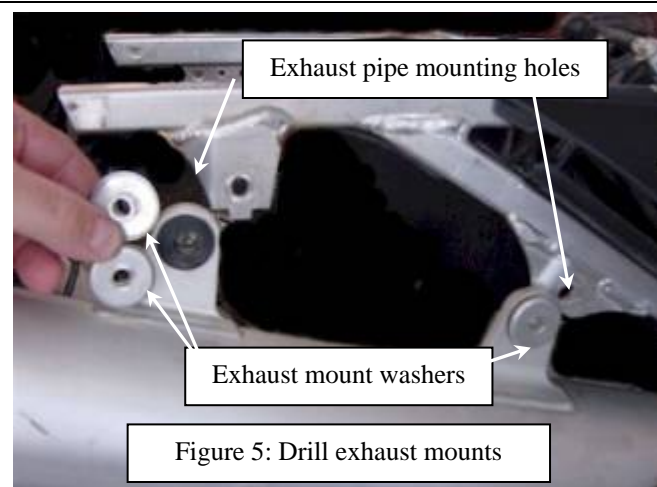

Figure 5: Drill exhaust mounts
8. Remove the two 6mm exhaust-mounting bolts, clip nuts and any springs. Remove the exhaust pipe. Disassemble and drill out the holes in the aluminum exhaust mount washers to 21/64" diameter. There are four separate aluminum washers that make up the two exhaust mounts (**Figure 5**). After drilling to make a clearance hole for the new 8mm bolts, re-assemble the exhaust mount washers onto the exhaust pipe.
9. Drill out the exhaust pipe mounting holes that are located on the subframe to 21/64" diameter. Drill these holes in the center of the factory slot (**Figure 5**).